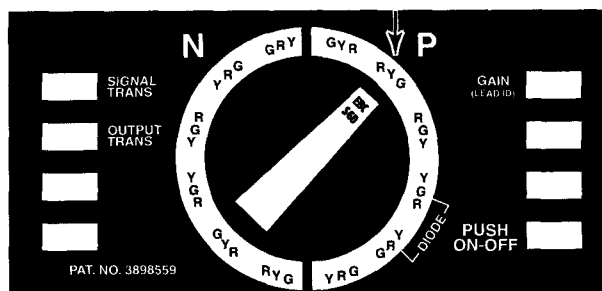

Fig. 14: Identifying Basing from Permutator Switch.
- a. If the transistor is a Bipolar Junction Transistor (normal transistor), the three elements of the transistor are listed on the switch pointer, and the corresponding colors of the test leads are shown on the outside ring. (See Fig. 14.)